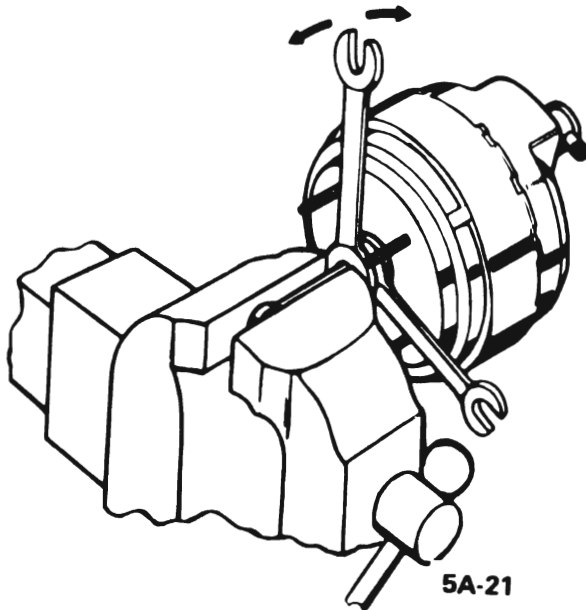

Figure 5A-21 Removing Air Valve Rod
7. Position two small blocks of wood on either side of air valve rod and install end of air valve rod in vise, leaving just enough clearance to position two (2) open end wrenches between vise and retainer on hub of rear plate.
8. Using the wrench nearest the vise as a pry, force the valve plunger grommet off from the ball end of the rod. Do not damage plastic hub or allow vacuum cylinder to fall to the floor. See Figures 5A-21 and 5A-22.
9. The edge of the rear shell contains twelve (12) lances. Four (4) of these lances (one in each quadrant) are deeper than the other lances. The metal that forms the four (4) deep lances must be partially straightened so that the lances will clear the cutouts in the front shell. If the metal tabs that form the deep lances break during straightening, the shell must be replaced. See Figure 5A-23.